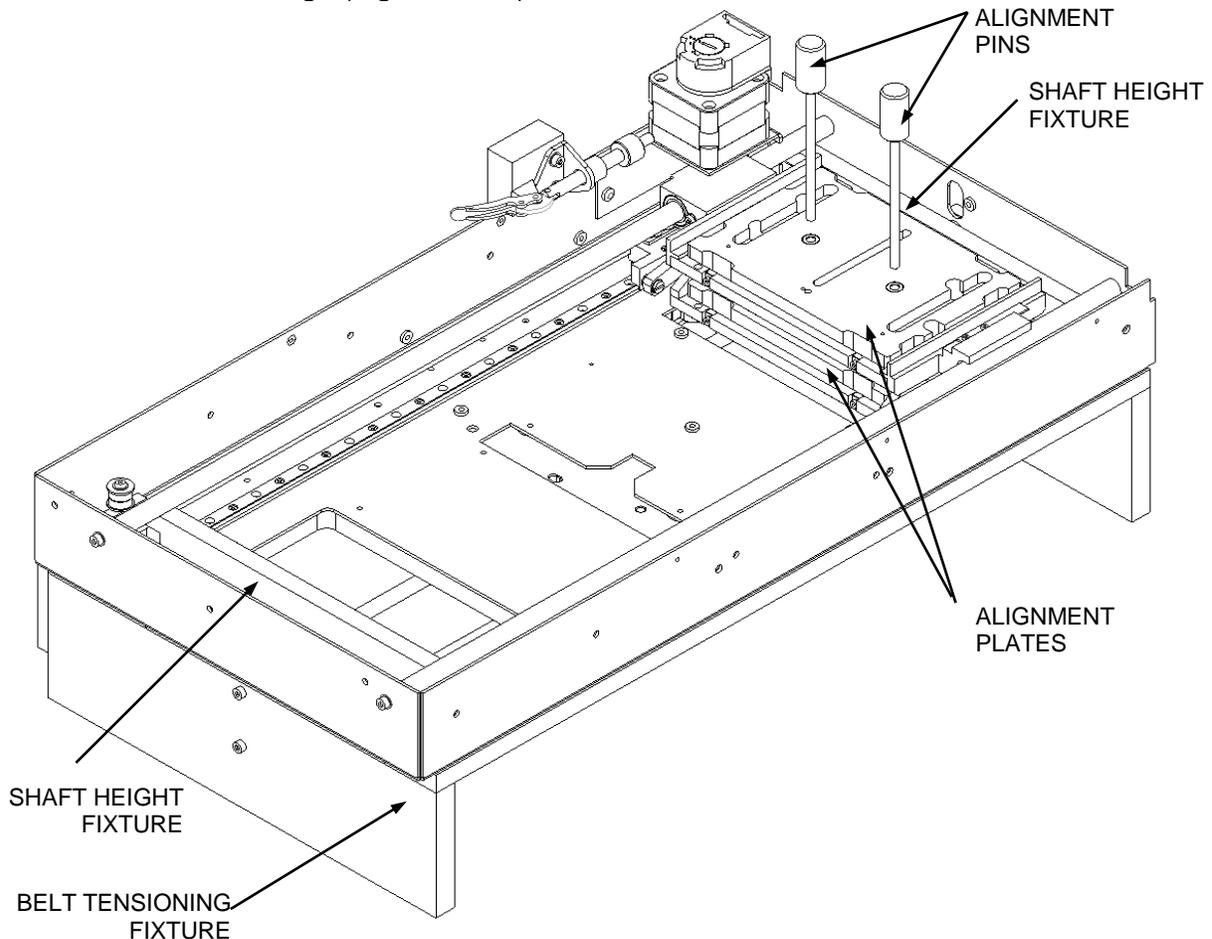

Figure 12-39: Inserting the Alignment Pins
6. Fit two Alignment Pins (AMFIX004) through the Alignment plates so that the top and bottom carriers align (Figure 12-39).